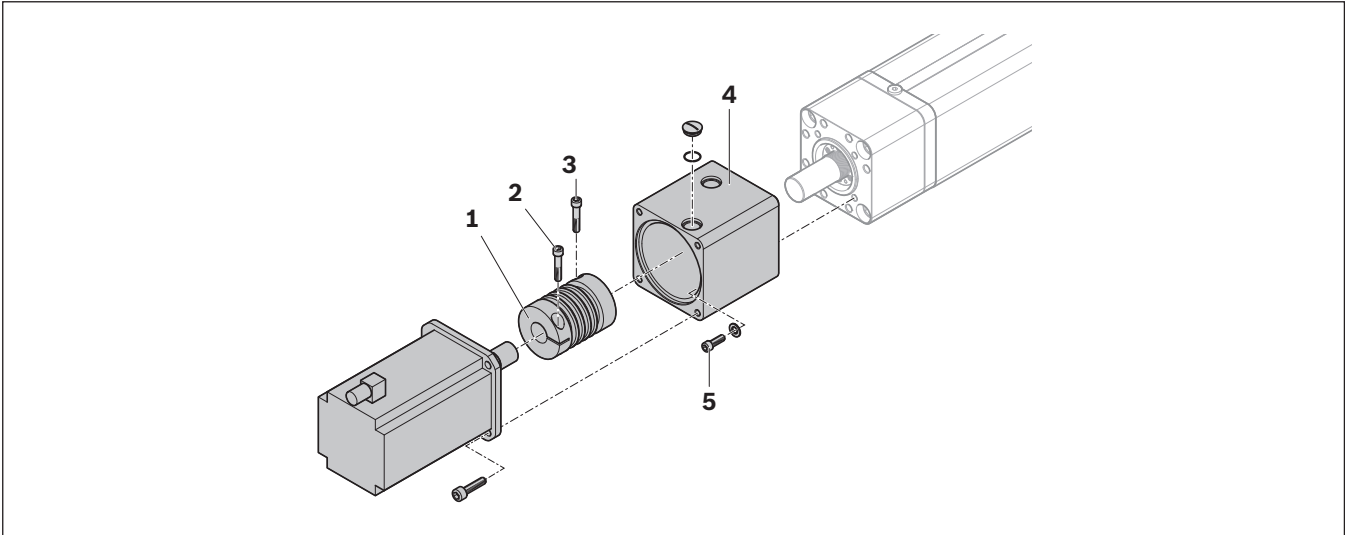

Fig. 16: Mounting the flange with coupling
6. Insert the motor into the locating feature of flange and coupling → Fig. 16 on page 20.
8. Tighten the fixing screw (2) of the coupling on the motor side with the tightening torque  $M_A$  → Table 12 on page 21.
9. If necessary for tightening the second screw (3), release the motor brake and move the piston rod so that the screw journal turns.